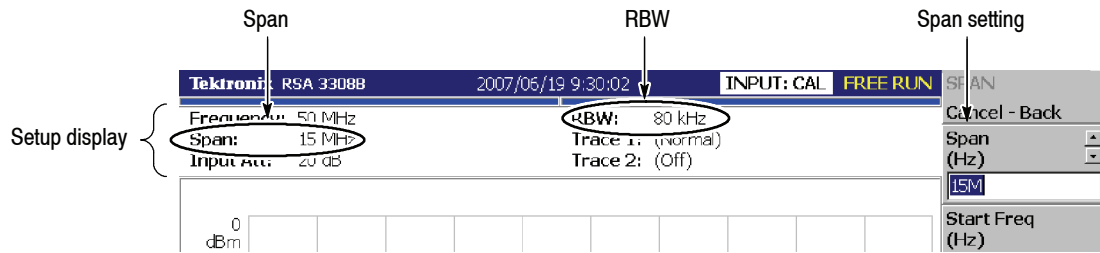

Figure 3-2: Setup display
- b. Confirm that the span is 15 MHz and the RBW is 80 kHz in the setup display on the upper part of the screen (see Figure 3-2).